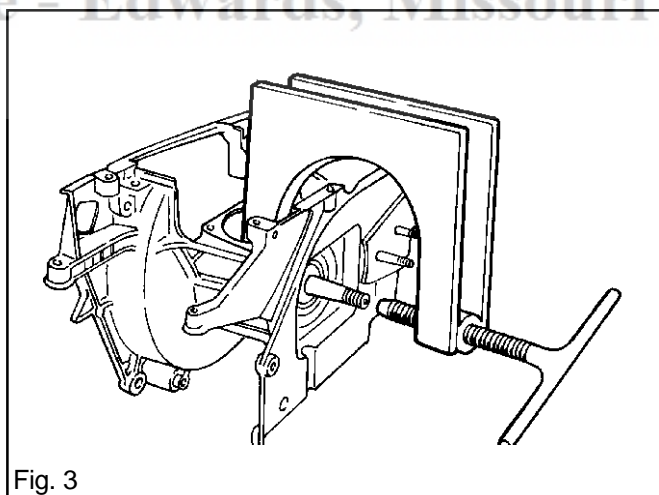

Fig. 3
5. Fit tool 502 51 61-01 as shown in fig.3 and remove the crankcase half on the clutch side
6. Remove the crankcase half on the flywheel side in the same way as item 4 above.